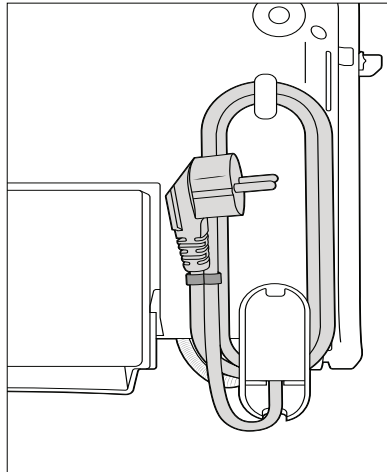

Fig. 2
- ◆ There is a cable retainer ❸ on the underside of the appliance. Wrap the mains cable clockwise around the hook and the foot of the appliance (fig. 2).